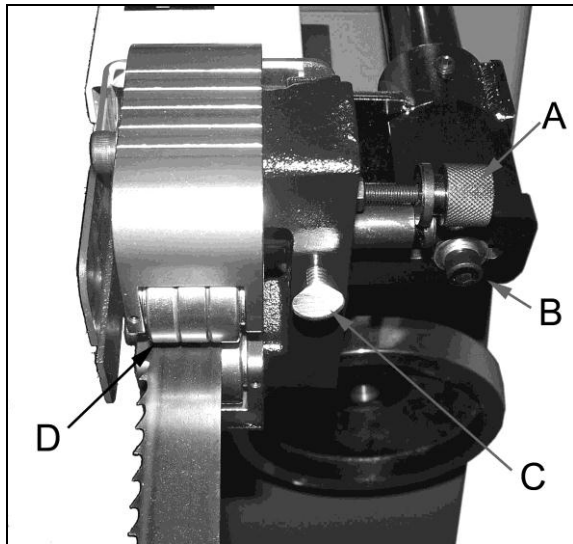

Figure 9
2. To do this, loosen the thumb screw (C, Figure 9) then turn the knurled knob (A, Figure 9) to adjust the rear blade support bearing.